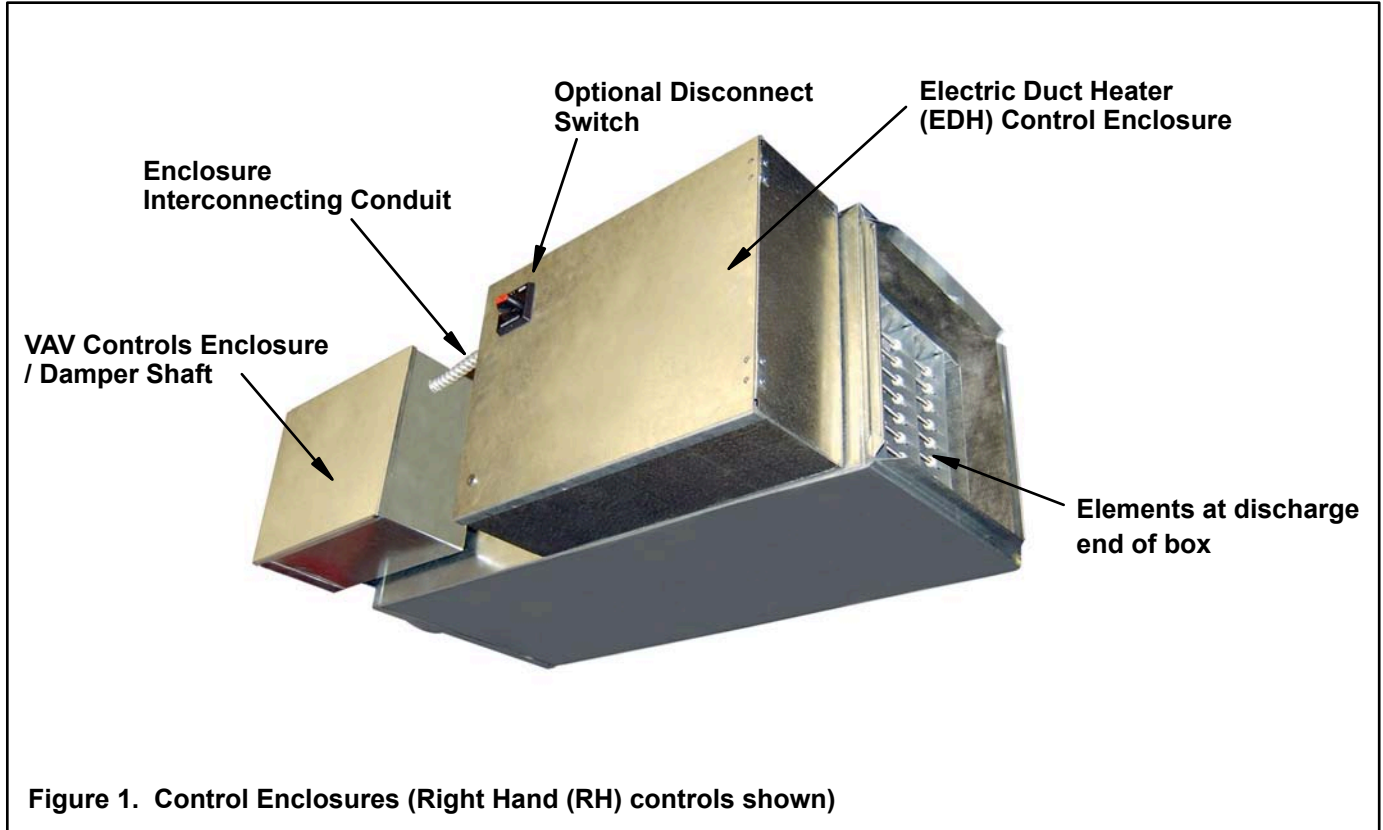

Figure 1. Control Enclosures (Right Hand (RH) controls shown)
There are (2) separate steel enclosures on the VAV box (Fig. 1). The VAV controls enclosure is located next to the supply air inlet & houses the low voltage VAV controls and damper shaft / actuator. The Electric Duct Heater (EDH) controls enclosure is located downstream from the controls enclosure and houses both HIGH and low voltage controls and circuitry. Building electric power is brought into the EDH enclosure using one of the electrical knockouts as a single point electrical connection for the entire assembly. There is a metallic conduit that connects these enclosures together for interconnected wiring. Note that there are 2 separate wiring diagrams for the assembly. The primary air flow controls diagram is located on the outside of the VAV controls enclosure & the EDH diagram is located inside the hinged cover.